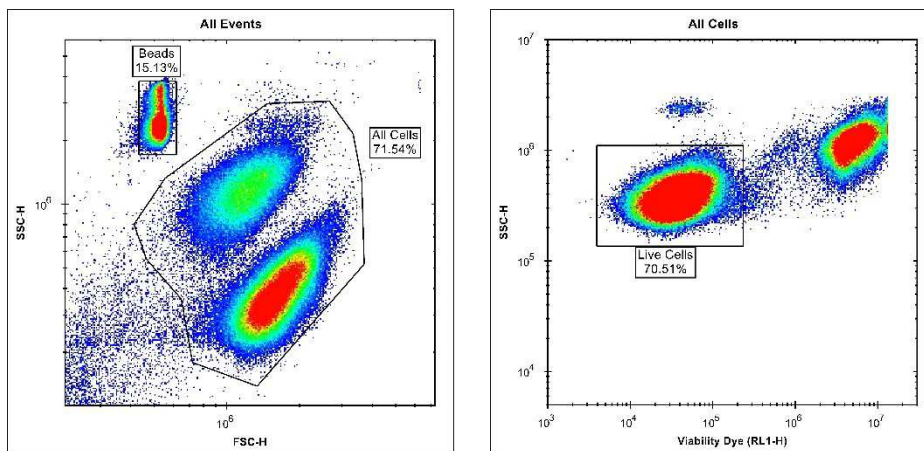

Figure 2: iQue® Cell Count and Viability Kit gating for Live Cells.
- 3.7 Use the template to gate Beads, and All Cells → Live Cells (see Figure 2).